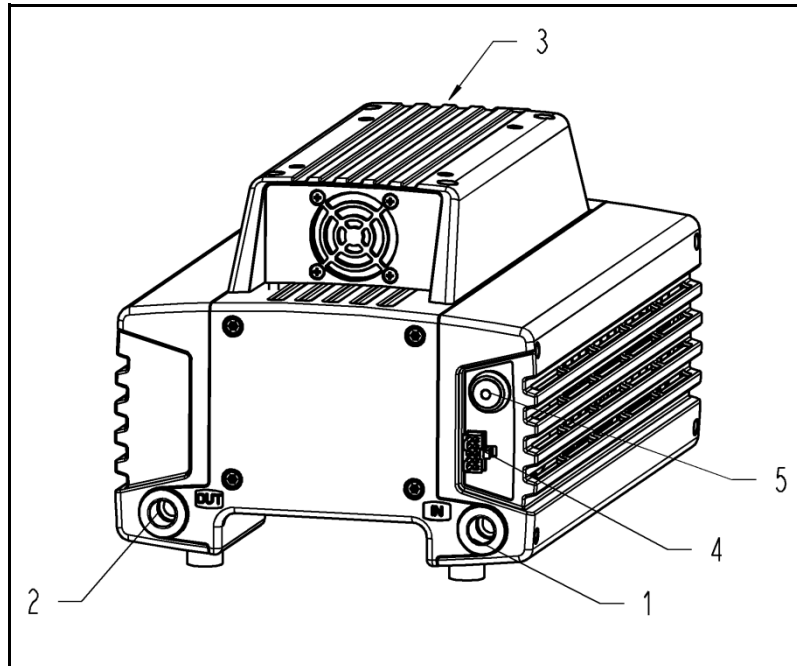
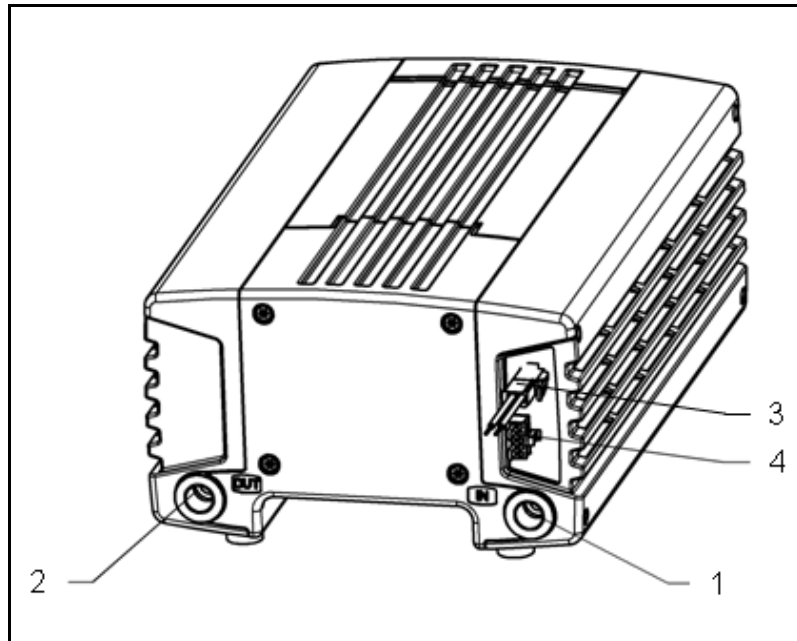

Fig. 1: Assembly of N 950.50 KNE-W
Fig. 2: Assembly of N 950.50 KNDC-B
- ➔ Pump N 950.50 KNE-W only: Switch on pump with power switch (see Fig. 1, page 8).
- i** The flow rate is set to a fixed value as standard. This is achieved with a plug in the control cable connection (see Fig. 1/4 and Fig. 2/4, page 8).
- ➔ Pump N 950.50 KNE-W only: Switch off pump with power switch (see Fig. 1, page 8).